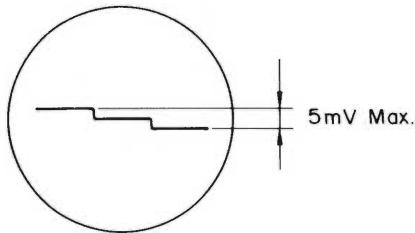

Fig. 4-6-9
- 4) As in the item 1 RMS SYM, set the deck CH 1 ( $\sim$  4) at REC/PAUSE mode using dbx IN.
- 5) Adjust the half-fixed resistor R713 ( $\sim$  R743) in a way that waveform of the oscilloscope obtains the minimum voltage value (maximum; less than 5mV) as shown in Fig. 4-6-9.
- 4) Check waveform on the oscilloscope is less than 5mV (Refer to Fig. 4-6-9).